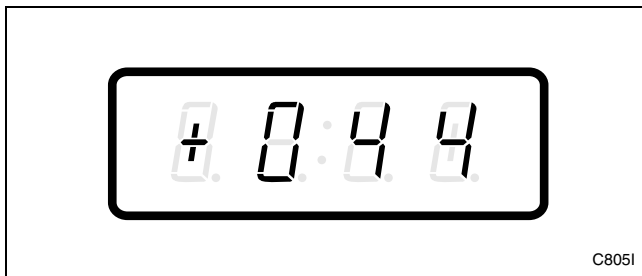

Figure 163
3. Press the DELICATES (+) or the COLD (-) keypad to scroll through the programmable options until “+044” appears in the VFD. Refer to *Figure 163*.